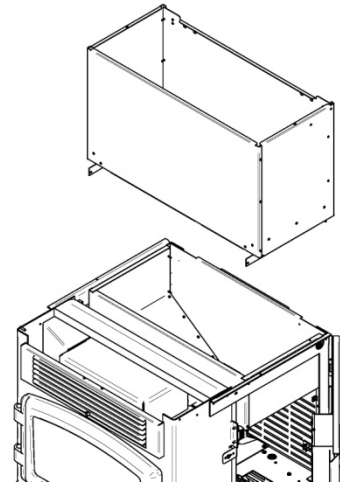

Figure 5
Step 5 : Install the hopper extension on the stove as shown on figure 5.